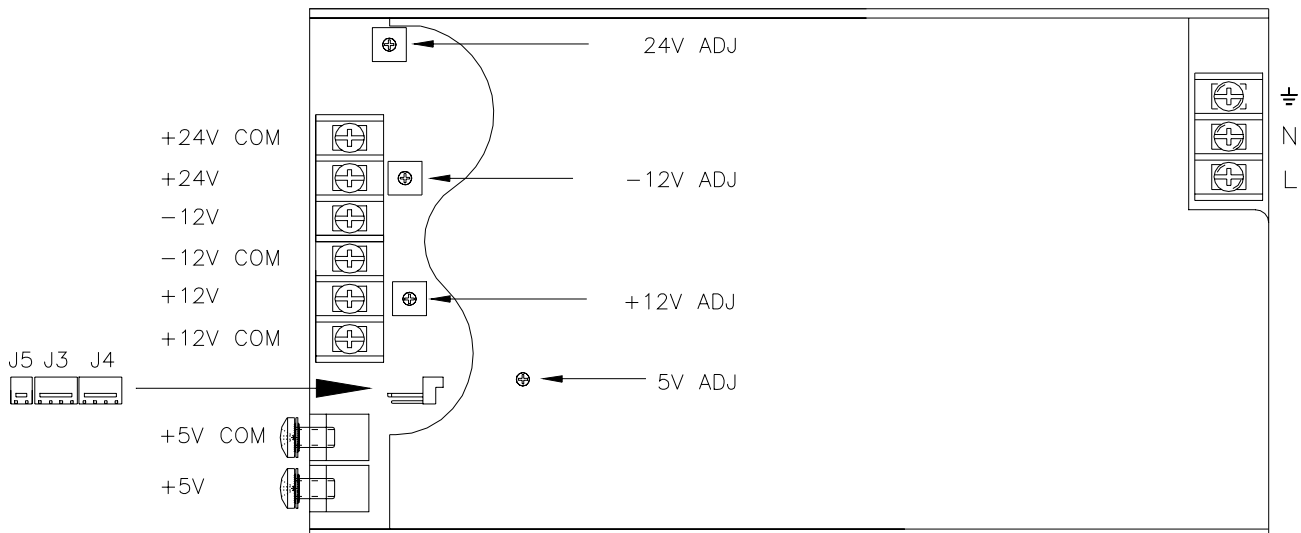

Figure 6-7
1. With the MX-20 turned on and all system components connected, measure the voltages at checkpoints shown in Table 6-1 and in Figure 6-7. **Caution:** Because of the limited space around the output terminals, use insulated test probes, and be extra careful to prevent shortening of circuits.
2. If any of the voltages are outside the limits of minimum or maximum shown in Table 6-1, adjust the respective trim potentiometer as shown in Figure 6-7. For the adjustments, use appropriate insulated alignment tools.